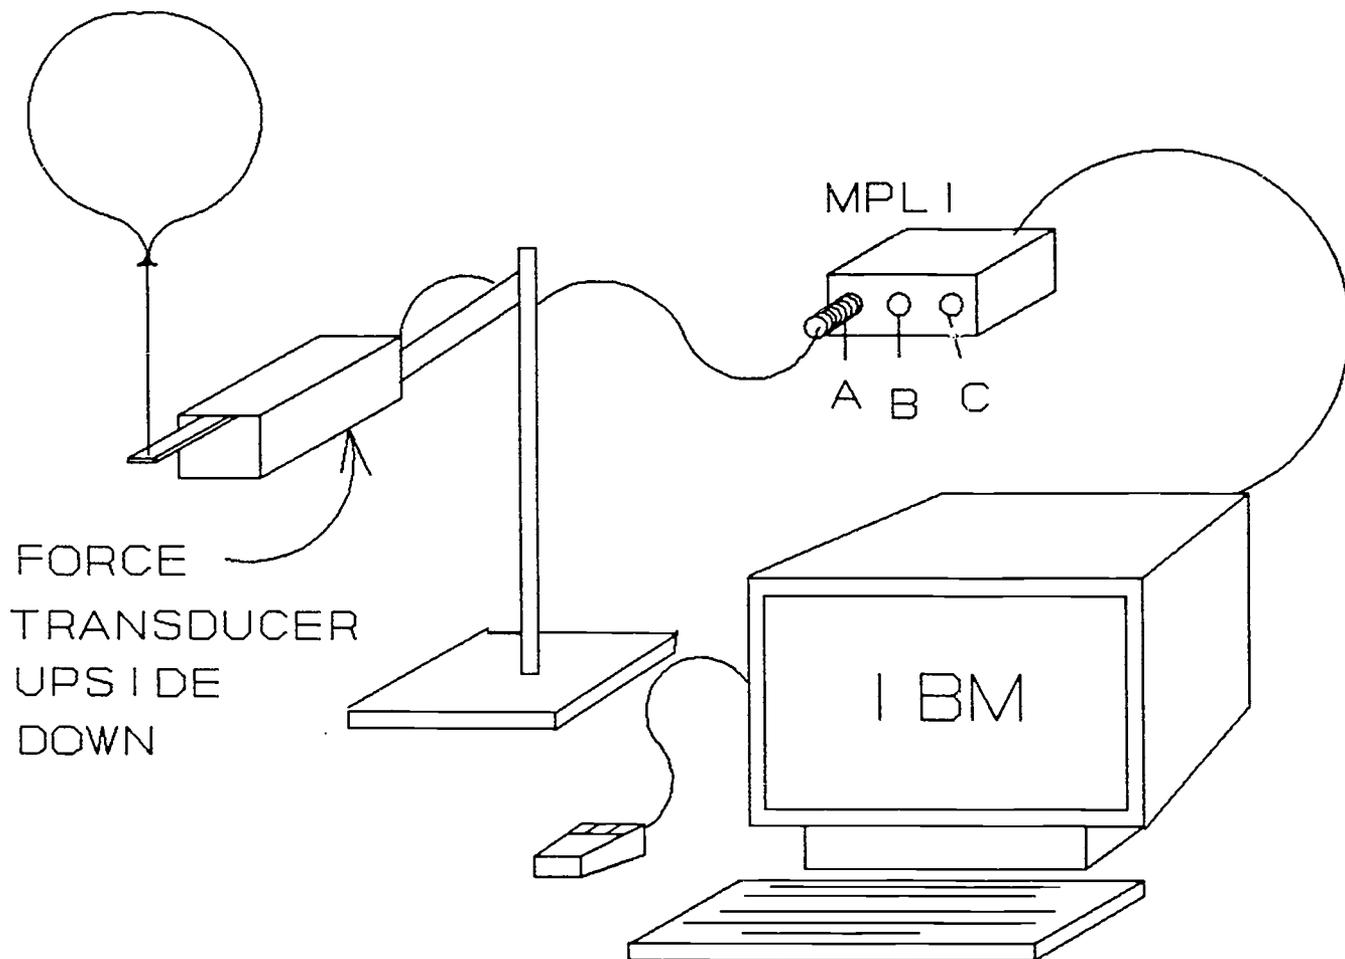

Figure S-6-2
Note: Force transducer in Figure S-6-2 is upside down in order to arrive at positive values.
9. Connect the balloon to the force transducer with string as in Figure S-6-2.